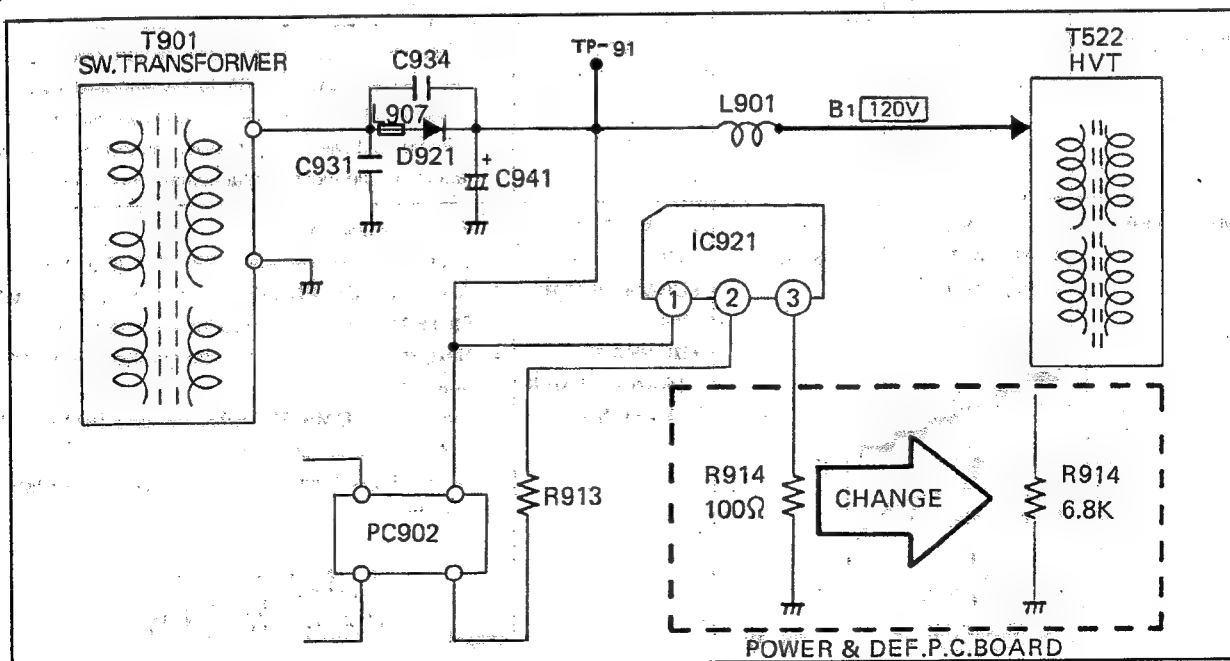

Fig. 2
<p style="text-align: center;">Fig. 2</p>
2. After loosening the set screw of the DEF. YOKE, draw the yoke fully to the rear side to let irregular color of a vertical belt form appear on the screen.	 <p>Fig. 2</p>
3. Mutually pile up two PURITY MAGNETS, and set them to a horizontal position as initial magnets (Fig. 2).